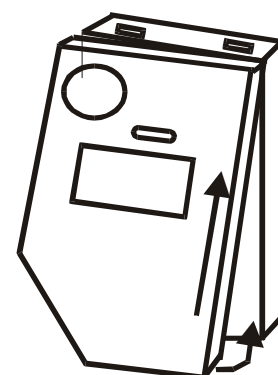

Fig 5
- b. Replace the front panel onto the base by sliding the tabs located on the top front panel into the holes located on the top back panel. Then snap the front panel into the bottom hole (fig 5).